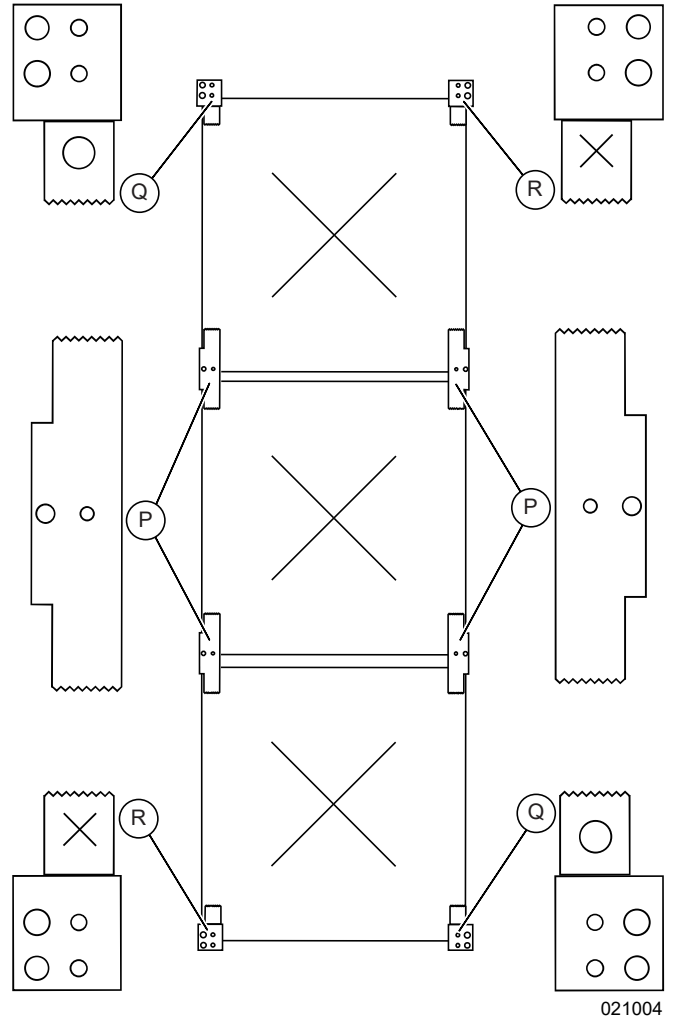

Figure 4-22. Installing Retention Clips (2 of 3)
See Figure 4-22. There are three types of retention clips: double retention clips (P), single retention clips marked O (Q), and single retention clips marked X (R).
- Install single retention clips (Q) (R) at the top and bottom of the stack.
- Install double retention clips (P) between rows of modules.